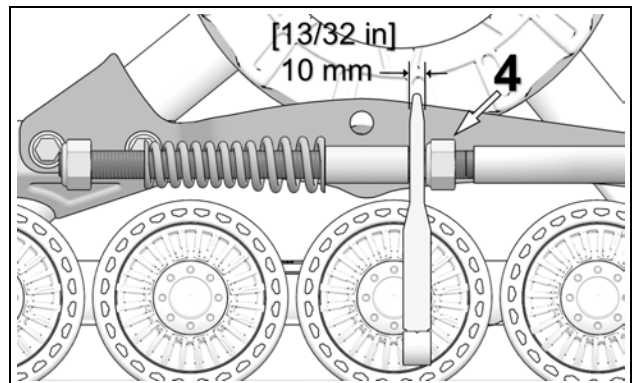

Figure 11
- Set nut (4) to obtain a distance of 10 mm between nut and stabilizing arm guide as shown on Figure 11.